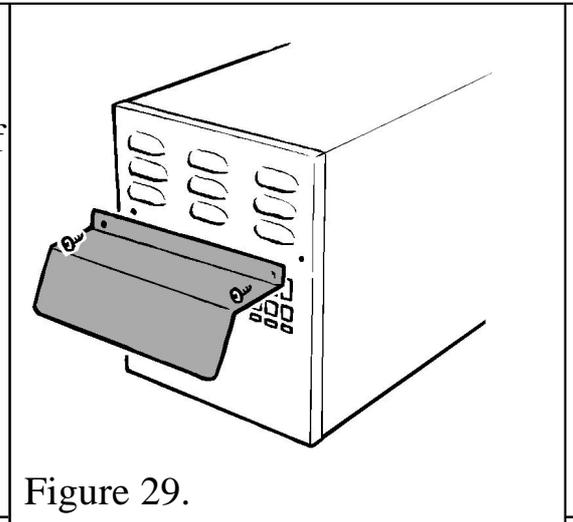

Figure 29.
10. Replace the fan box cover and weather shield (See figure 29) and secure using the two screws provided.